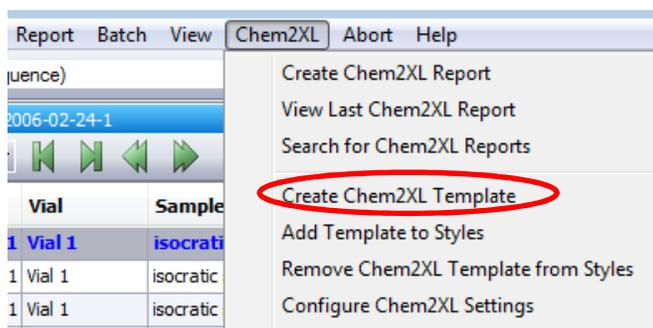

Figure 4.2 Create Chem2XL Template pull down menu
3. Select the Chem2XL menu *Create Chem2XL Template*. (see Figure 4.2)